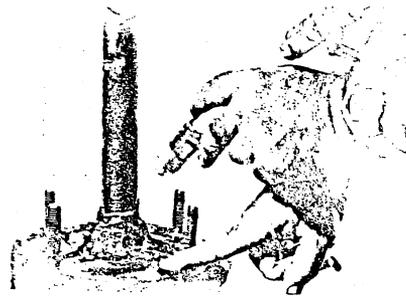

FIGURE 8
5.07 Remove the drill bit from the hole and rapidly place a forefinger over the hole to stop the flow of escaping air. (See Figure 8)